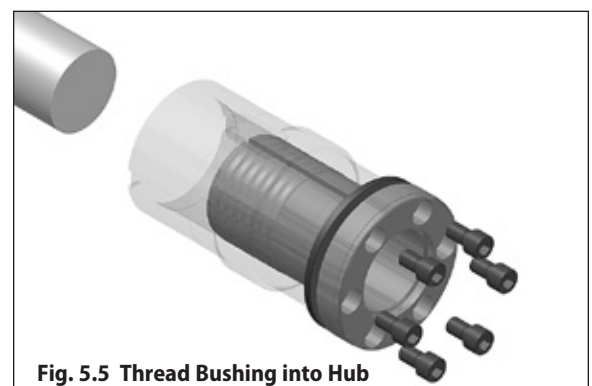

Fig. 5.5 Thread Bushing into Hub
Step 5 – Carefully thread the Taper-Grip® bushing into the hub of the speed reducer or gearmotor until the thrust collar solidly engages the unit hub surface and the bushing flange (see Fig. 5.5). **Caution: Do not cross-thread. Bushing should thread easily into hub.**